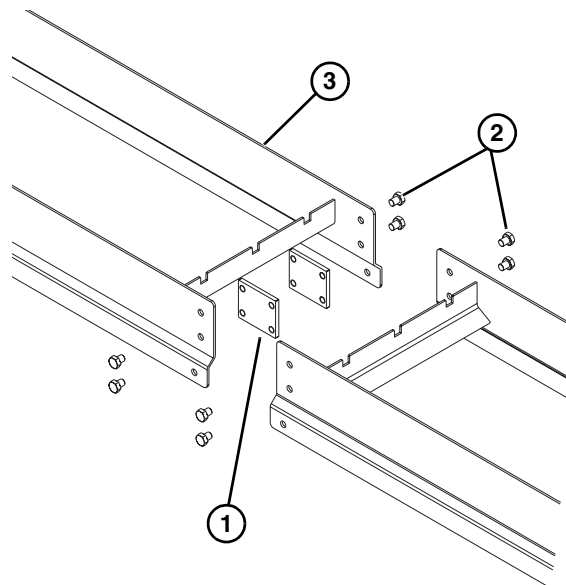

Figure 5
Typical Connecting Components (Figure 5).
1. Join both conveyor sections, and install plate frame connectors (Figure 5, item 1), and secure with M10x12 hex head cap screws (Figure 5, item 2) on both sides.